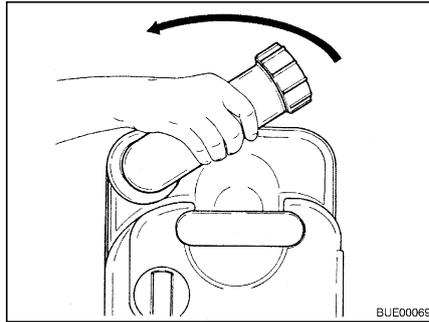

Fig. 293 Turning drainage neck
- Turn the drainage neck upwards (Fig. 293).